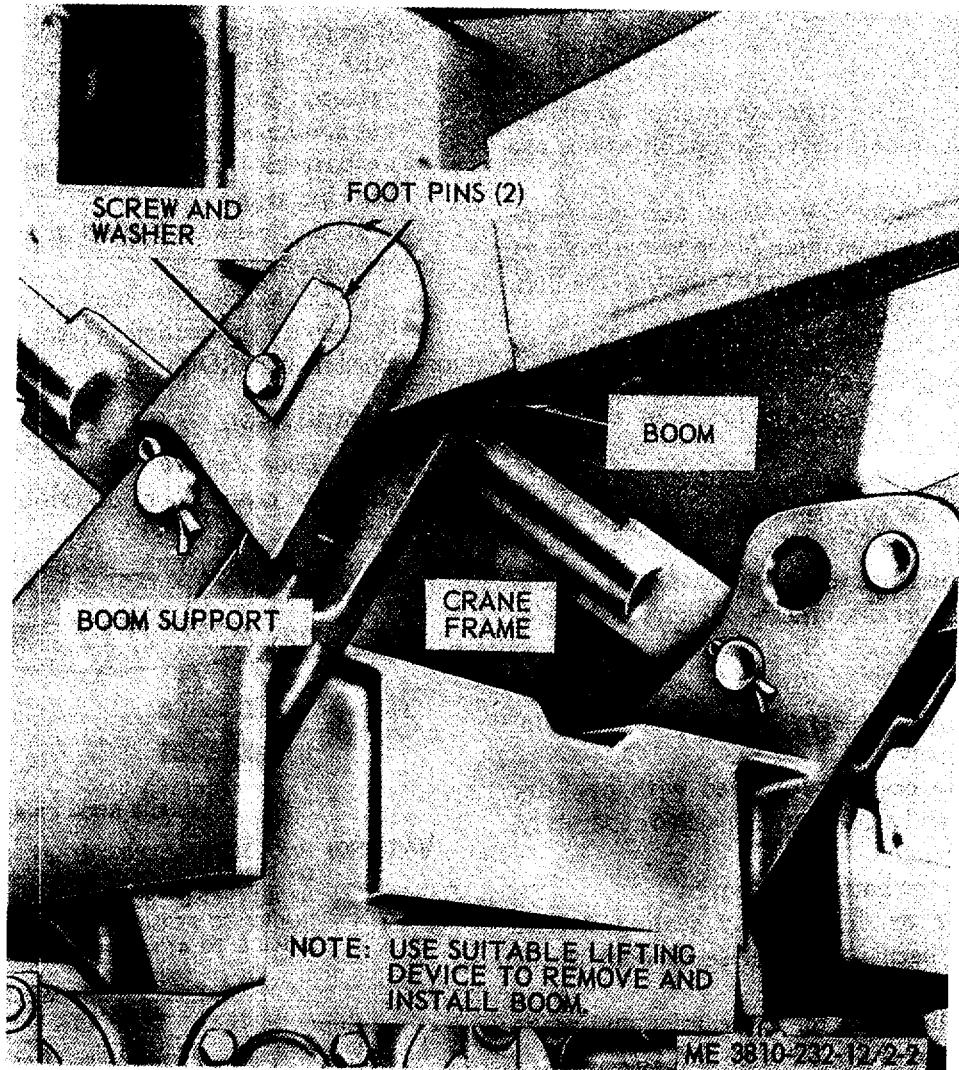

Figure 2-2. Crane boomfoot pins, installation.
frame boom support with the holes in the boom (fig 2-2) and install the boom foot pins, screws and washers.
(2) Use wedges or jacks to relieve weight from the boom footpins. Remove the boom footpins (fig. 2-2).
(3) Remove cables; clean, lubricate, and identify the cables and store.
(4) Move the crane away from the crane boom attachment.